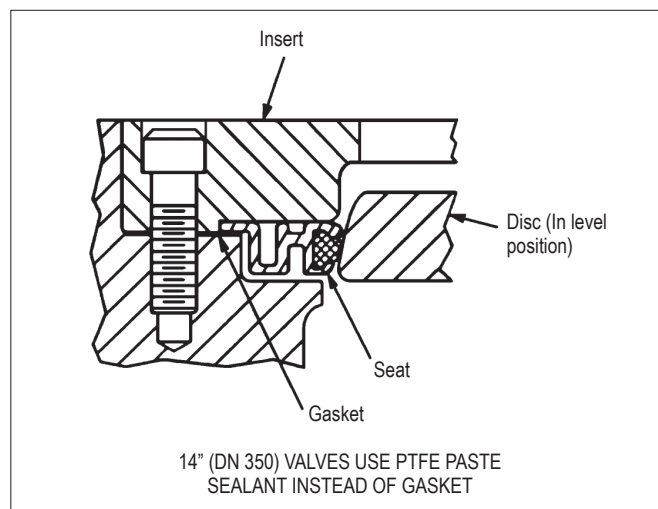

Figure 11.
Numbers in () refer to items shown in Figures 11, 12, 13, & 18.
11. Verify that the disc is in the level position. Install new seat and insert (see Figure 11). Install the insert screws, and tighten them in a uniform sequence. Torque values are given in (Table 1). Open valve and retorquing the insert screws (per Table 1). Take care not to damage the sealing edge of the disc. Close the valve.